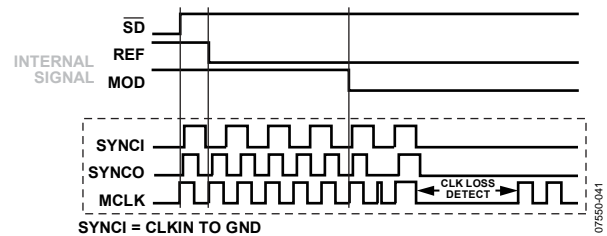

Figure 41. SYNCI = Clock Input to GND
- SYNCI = CLK, transitions to GND. When SYNCI is connected to a clock signal but then transitions to GND, the SYNCO pin immediately stops generating a clock signal. After a short clock loss detect time, the internal modulator synchronizes to the internal clock signal, as shown in Figure 41.